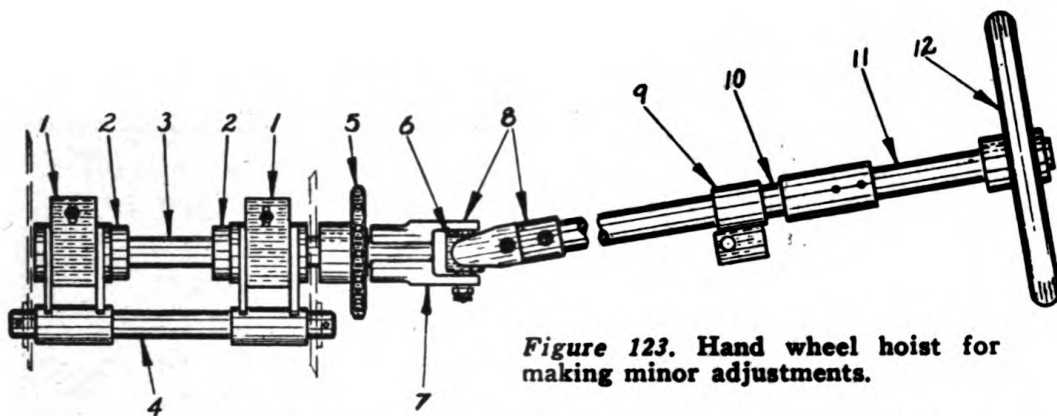

Figure 123. Hand wheel hoist for making minor adjustments.
Assembly is shown on Figure 123. Bearing brackets (1) mount on idler shaft (3), secured in position by collars (2). Sprocket (5) is keyed and set screwed to shaft (3) with universal fork half (8) bolted on end of shaft and coupled to (8) on end of shaft (10) by means of connector (6). Bracket bearing (9) holds shaft (10) in position with (11) coupled to it by bolts. Hand wheel (12) is keyed and set screwed in place.